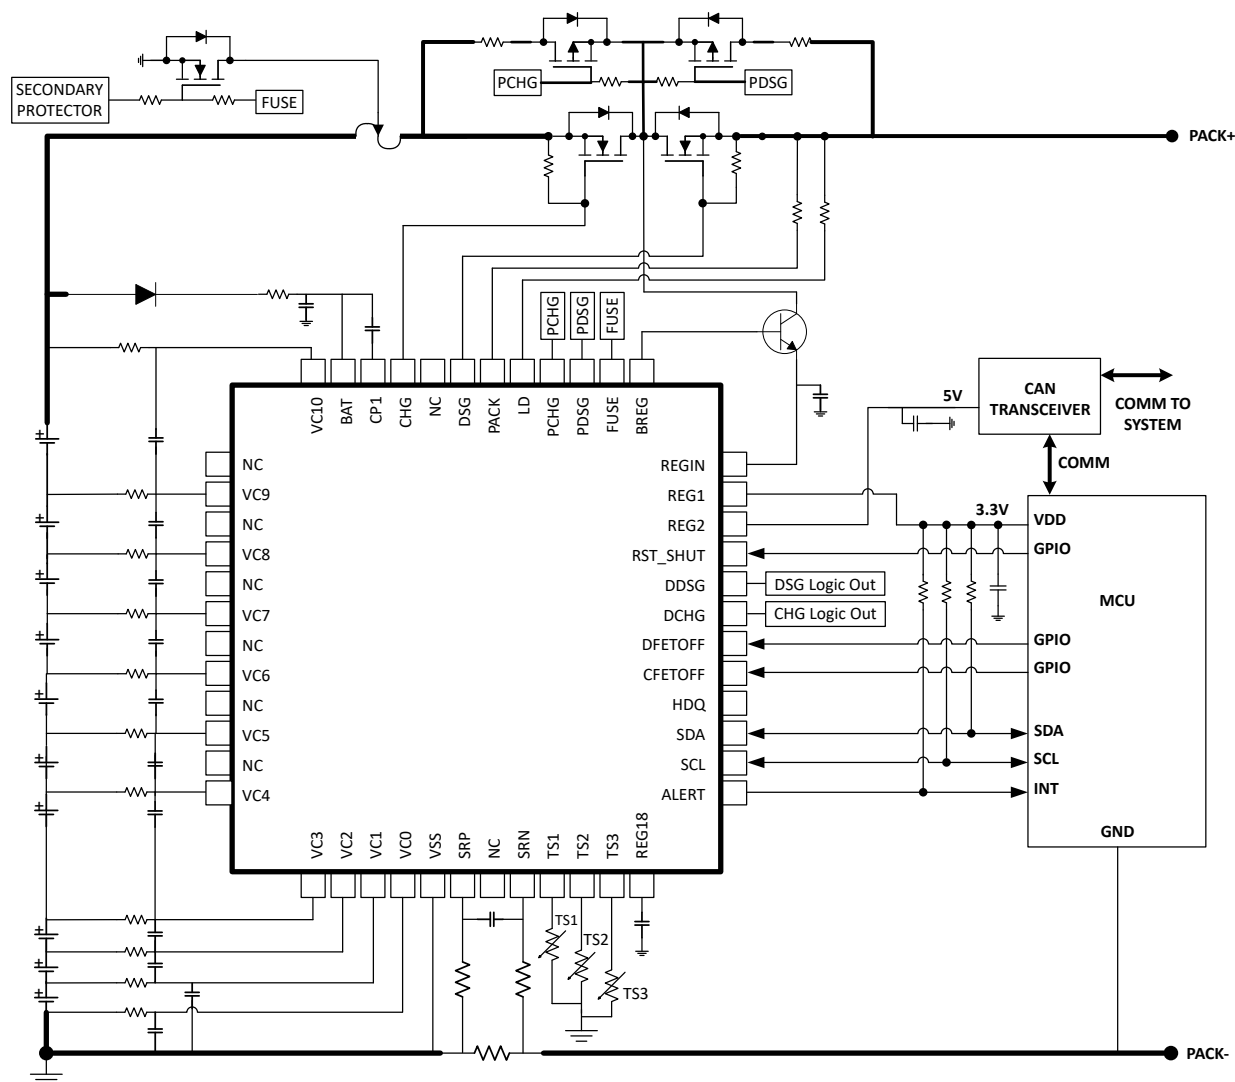

Figure 16-1. BQ76942 10-Series Cell Typical Implementation (Simplified Schematic)
Figure 16-1 shows a simplified application schematic for a 10-series battery pack, using the BQ76942 together with an external secondary protector, a host microcontroller, and a communications transceiver. This configuration uses CHG and DSG FETs in series, together with high-side PFET devices used to implement precharge and predischARGE functionality. See the following implementation considerations:
- Power dissipation, which can be a factor of the RDS(ON) rating of the FET, the FET package, and the PCB design.
- The overdrive level of the BQ76942 device charge pump should be selected based on RDS(ON) requirements for the protection FETs and their voltage handling requirements. If the FETs are selected with a maximum gate-to-source voltage of 15 V, then the 11-V overdrive mode within the BQ76942 device can be used. If the FETs are not specified to withstand this level, or there is a concern over gate leakage current on the FETs, the lower overdrive level of 5.5 V can be selected.
- A diode can optionally be included in the collector circuit of the BJT, in order to avoid reverse current flow from BREG through the base-collector junction of the BJT to PACK+ during a pack short circuit event. This diode can be seen in Figure 16-1 at D2.